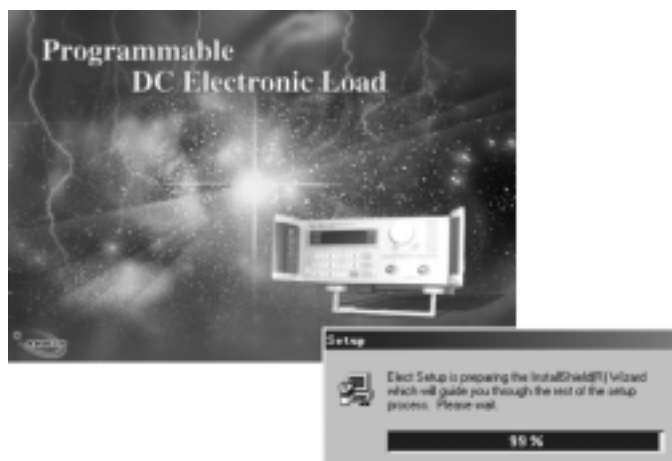

Fig.1-2 The Initialization of the Installation
1.2.1 Insert the Array software CD into the CD-ROM drive, double-click My Computer => Array CD => Eload => Setup.exe to start the installation, the Fig. 1-2 will be displayed.